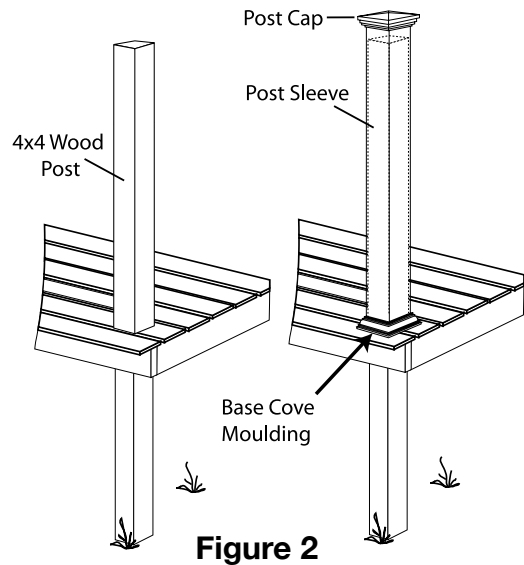

Figure 2
Use the post sleeve method to install railing directly to a wooden 4" x 4" (10 cm x 10 cm) deck post. This is ideal for new deck construction methods that attach the rim joist directly to the deck support posts, where wood 4" x 4" (10 cm x 10 cm) deck support posts extend through the deck serving as rail posts (Figure 2), or in those code compliant applications where the use of existing 4" x 4" (10 cm x 10 cm) wooden posts are desired.
6. After decking is installed, slide post sleeve over the wood 4" x 4" (10 cm x 10 cm) post (Figure 2).
9. Ensure that the post moulding is in place at the bottom of the posts (Figure 2).